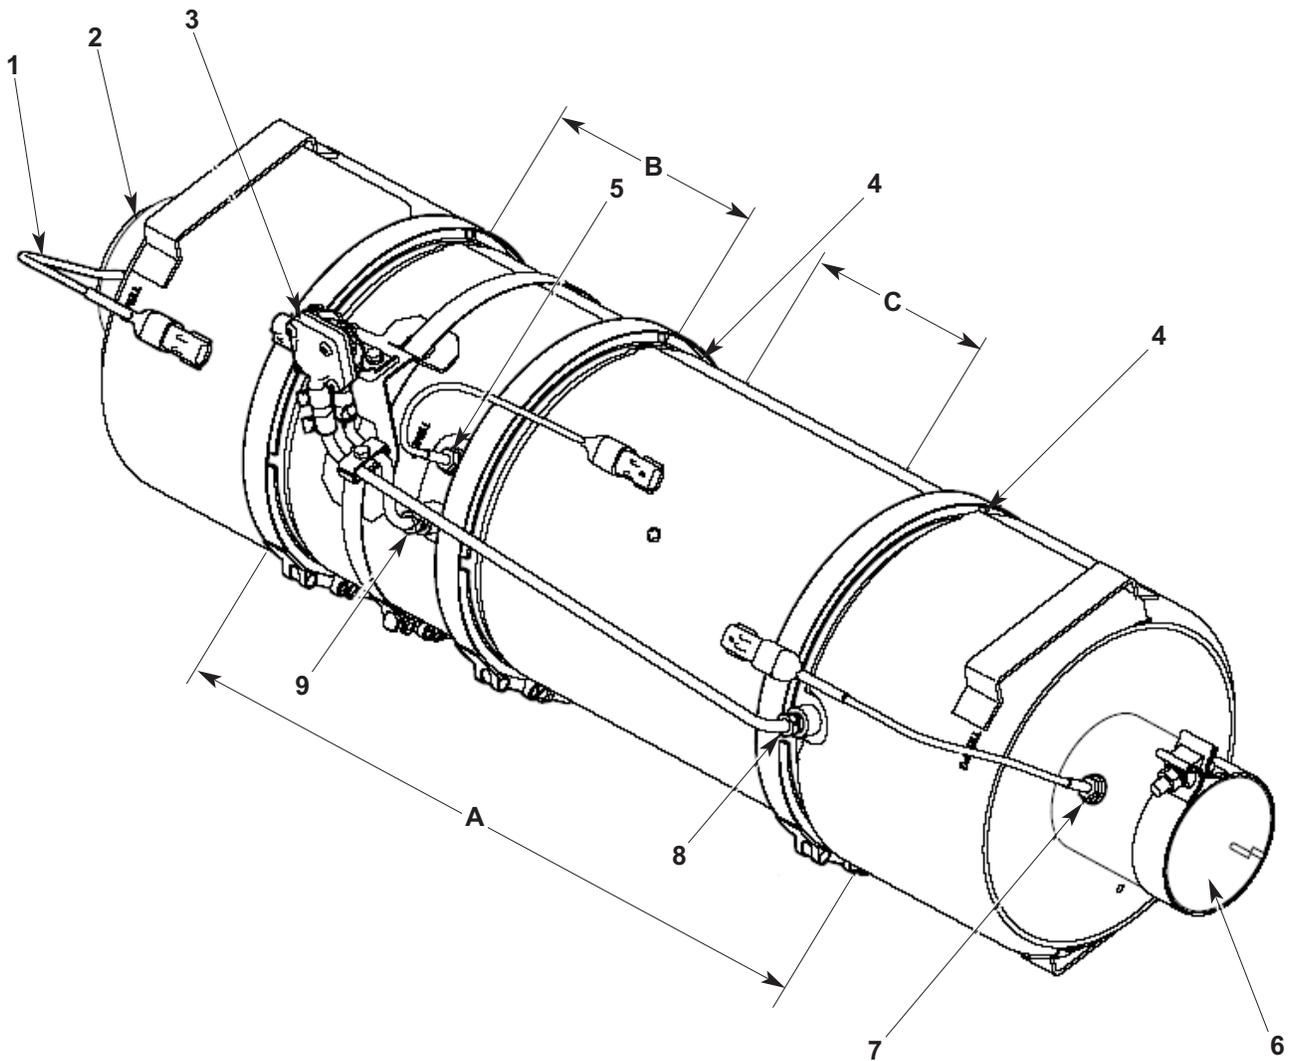

FIGURE 2- AFTERTREATMENT DEVICE (TYPICAL)
The Environmental Protection Agency's 2007 regulations require lower exhaust emissions, thus requiring new exhaust system components. (See Figure 2.) In particular, the aftertreatment device (ATD), which is part of the aftertreatment system (ATS), requires special attention during regularly scheduled maintenance inspections. If any discrepancies are discovered, refer to the engine manufacturer's service literature for repair instructions, or take the vehicle to an authorized Freightliner or Thomas Built Bus service facility for repair.
7. Check the DPF exterior surface for dents or other damage. (See Figure 2, Reference A.) A dent over 3 inches (76 mm) in diameter and 1/4-inch (6 mm) deep could cause internal damage to the DPF, causing it to malfunction.